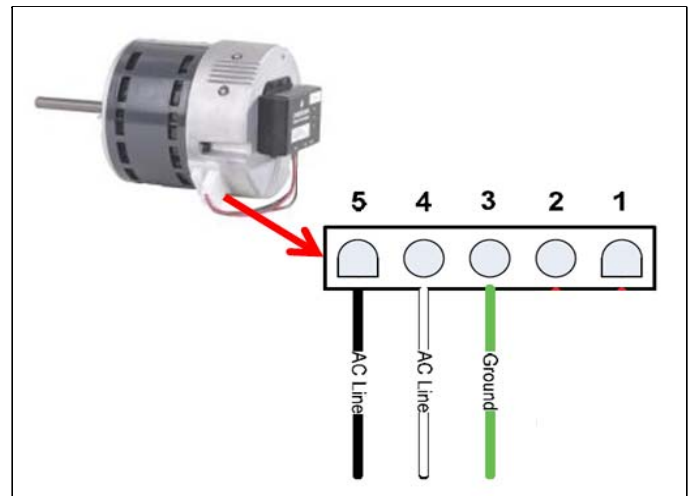

Figure 6. 5-Pin Power Plug (Pins 4 and 5)
1. Remove the 5-pin power plug from the motor and apply power. Using a digital multimeter check to determine if 240VAC is present between pins 4 and 5 (see figure 6).